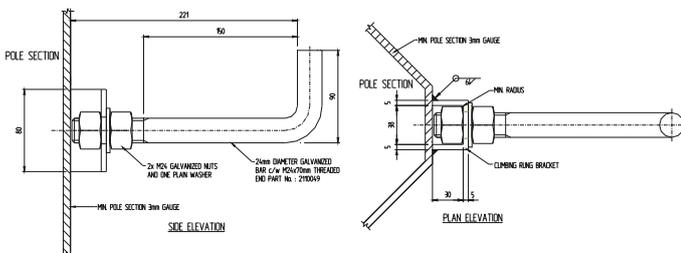

Figure 5
- Refer to Figure 5 for the climbing rung assembly.